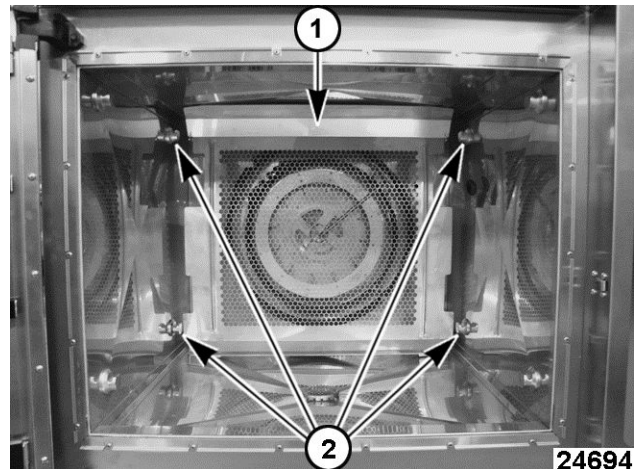
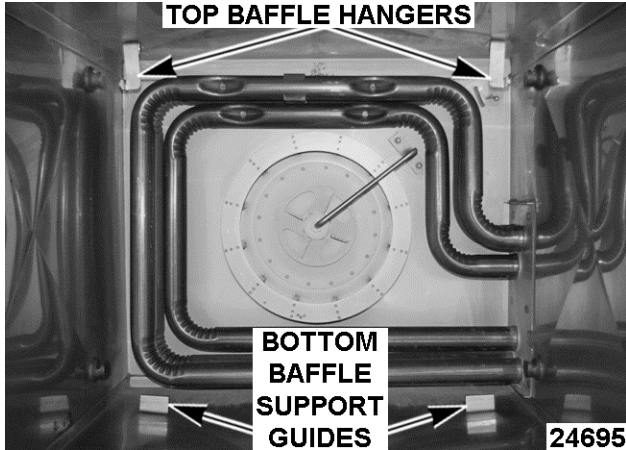

Fig. 84
Fig. 85
- Lift baffle (1, Fig. 84) up off bottom baffle support guides (Fig. 85).
- Lift baffle over bottom rack guide hangers (2, Fig. 84).
- Lift baffle up off top baffle hangers (Fig. 85).